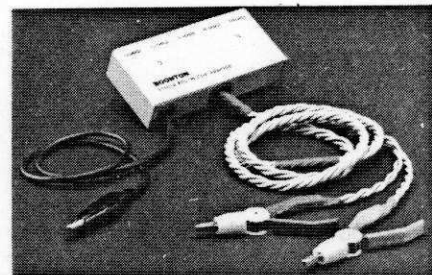

Figure 2-7. 5110-4 Kelvin Clip Adapter
b. 5110-4 Kelvin Clip Adapter. The adapter plugs into the instrument and is used to measure low resistance or low impedance and easily connects to short lead wires. Refer to Figure 2-7.